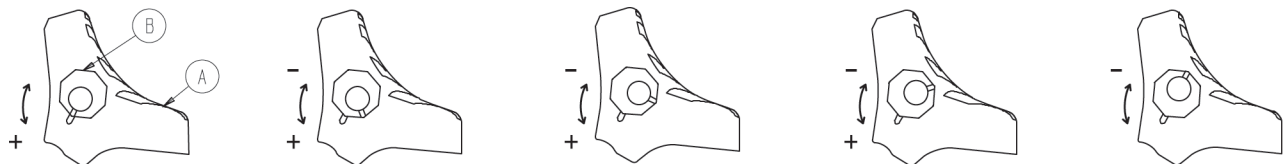

Figure 6 – Wheel locking force adjustment
1. Using a 5/32" hex wrench and 7/16" combination wrench or socket, remove the socket screw from the center of the lock pedal. Save the screw. The wheel lock is initially assembled with the pedal set at the minimum locking force. The marker on the pedal (A) is aligned with the marker on the octagonal sleeve (B) (Figure 6).
2. Remove the octagonal sleeve (B). Rotate the octagonal sleeve counterclockwise to increase the pedal locking force and clockwise to decrease the locking force. Insert the octagonal sleeve into the pedal.